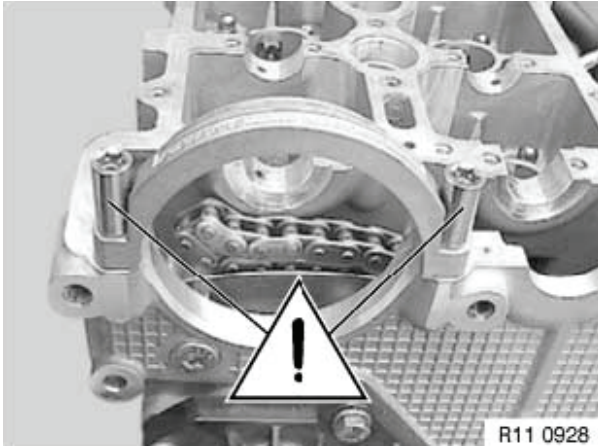

Figure 5-101
22. Do not remove loop casting bolts. **NOTICE:** NEVER remove bolts retaining loop casting (Figure 5-101).